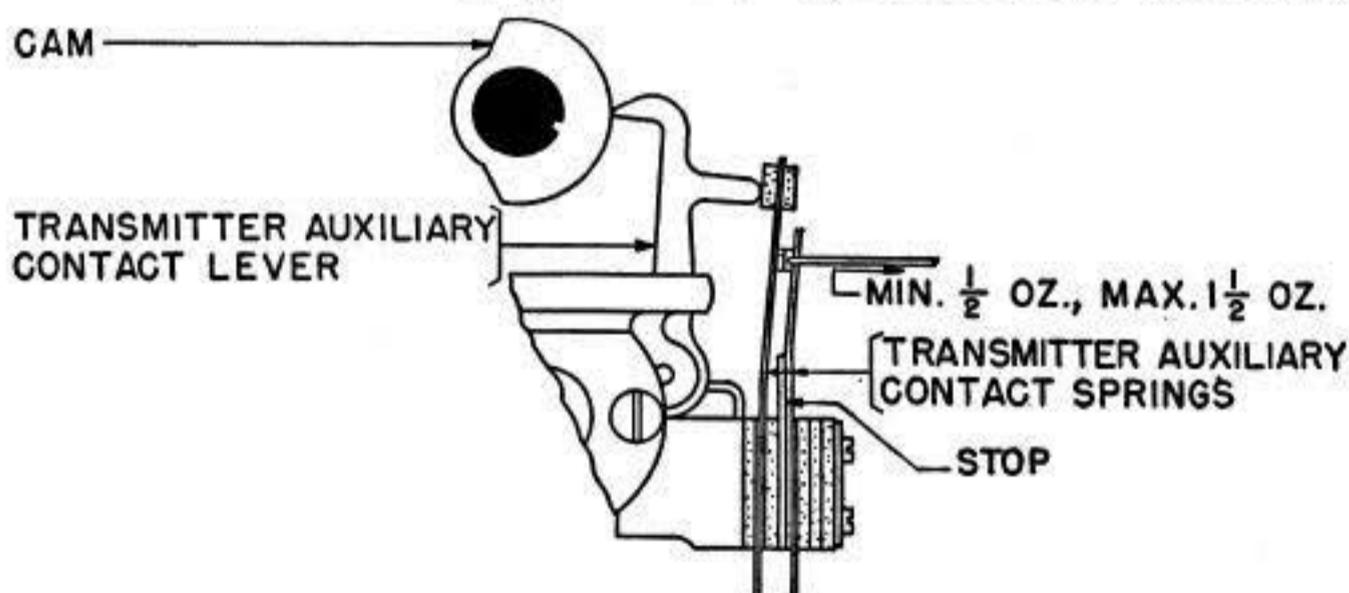

Fig. 64
- (a) It should require a pull as indicated in Fig. 64 to just separate the short-spring contact from the long-spring contact when the bakelite tip of the long-contact spring is resting against the transmitter auxiliary-contact lever and the lever is resting against the high part of its cam. **Fig. 64**